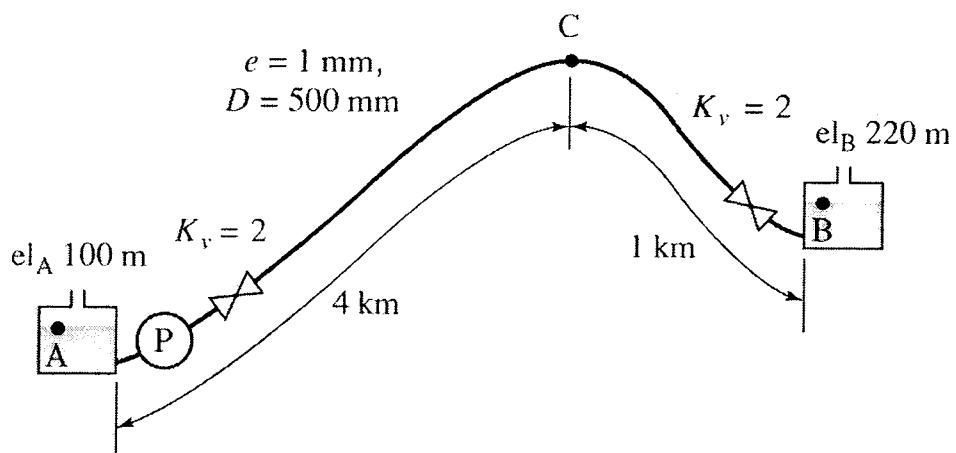

Figure 8 / Rajah 8
7. Gasoline is being pumped at 400 L/s in a pipeline from location A to B as shown in Figure 8. The pipe follows the topology as shown, with the highest elevation shown at location C. The only contributions to minor losses are the two valves located at the ends of the pipe. If $S = 0.81$, $v = 4.26 \times 10^{-7} \text{ m}^2/\text{s}$, $p_v = 55.2 \text{ kPa}$ absolute and $p_{atm} = 100 \text{ kPa}$.